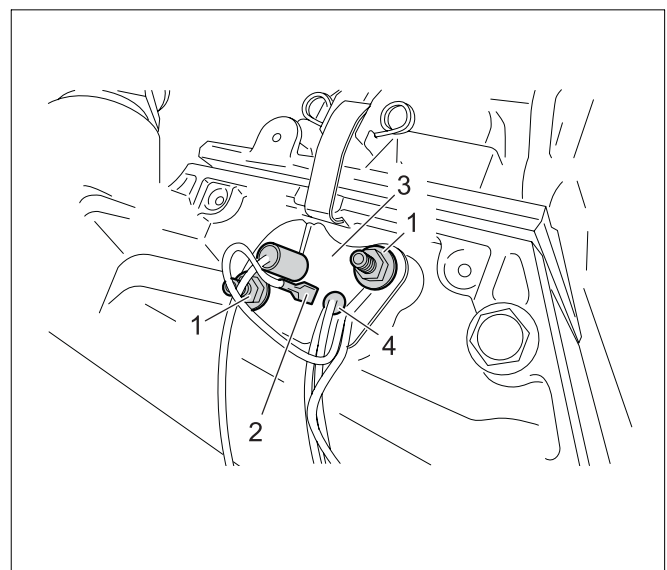

Fig. 63 Replacing the hot surface ignitor
- Loosen the fastening screws (fig. 63, pos. 1).
- Remove the earth cable (fig. 63, pos. 2).
- Remove the mounting plate (fig. 63, pos. 3).
- Remove the hot surface ignitor (fig. 63, pos. 4).
- Install the new hot surface ignitor with a new gasket and attach the mounting plate with fastening screws (see fig. 63, pos. 1).